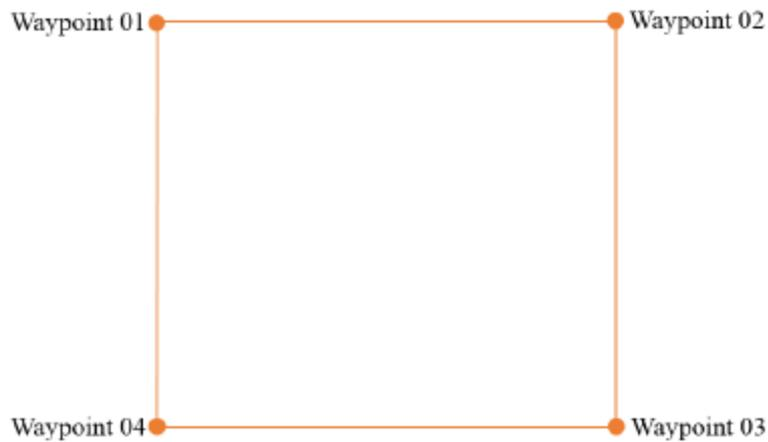

Figure 11-18 Move Line
- Click **【Input condition】** to input condition expression based on C language arithmetic rule, as shown in Figure 11.18(b). If the condition is evaluated to be true, the program inside this If are executed. If the expression evaluates to be false, the following Else If or Else statements will be executed.